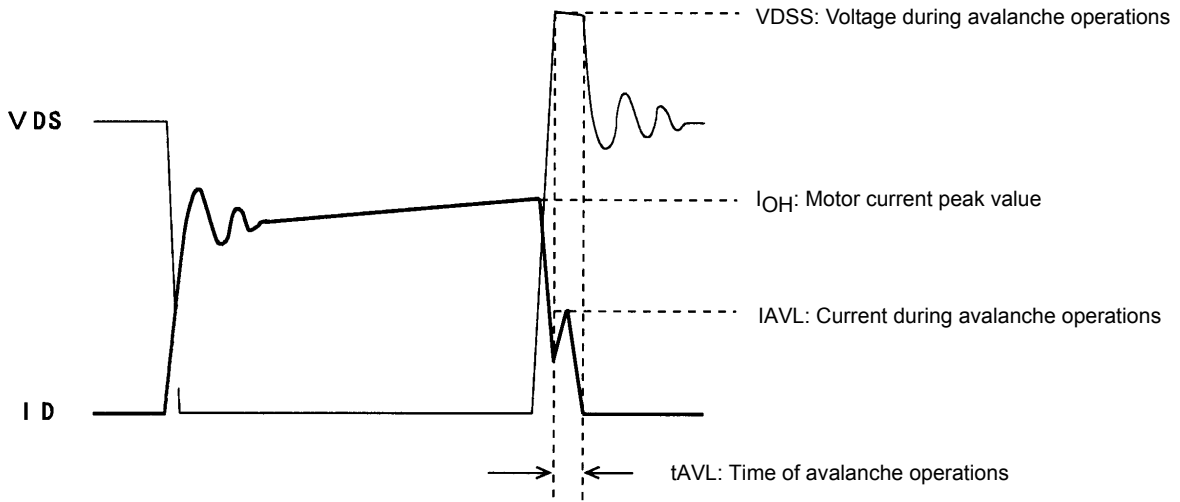

Figure 1. Output Current, I_D , and Voltage, V_{DS} , Waveforms 1 of the STK672-7** Series when Driving a 2-Phase Motor with Constant Current Chopping
When driving a 2-phase Stepper motor with constant current chopping using an STK672-7** Series IPM, the waveforms shown in Figure 1 below result for the output current, I_D , and voltage, V_{DS} .
Although the waveforms during avalanche mode are given in Figure 1, sometimes an avalanche does not result during actual operations.
- Increases in V_{DSS} , t_{AVL} , and I_{AVL} in Figure 1 due to an increase in the supply voltage from 24 V to 36 V.